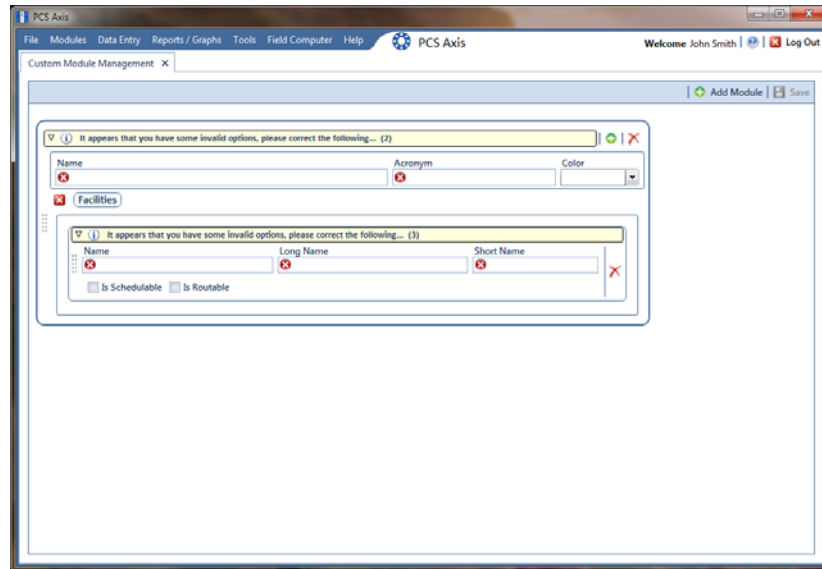

Figure 3-75. Custom Module Management
- 2 Open CMM and add a user defined module. Click **Modules > Custom Module Management > Add Module** (Figure 3-75).